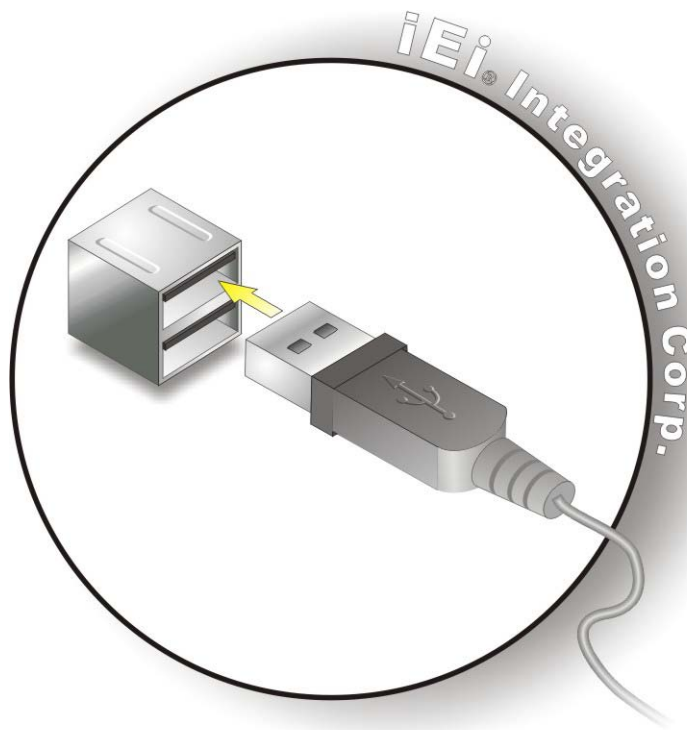

Figure 4-7: USB Connector
Step 2: Insert a USB Series "A" plug. Insert the USB Series "A" plug of a device into the USB Series "A" receptacle on the external peripheral interface. See **Figure 4-7**.